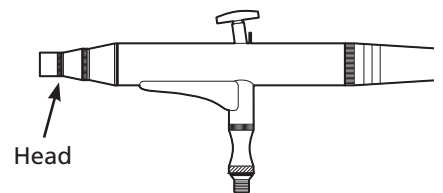

Figure 21
**NOTE:** Install head assembly before re-inserting needle into air brush (Figure 21).